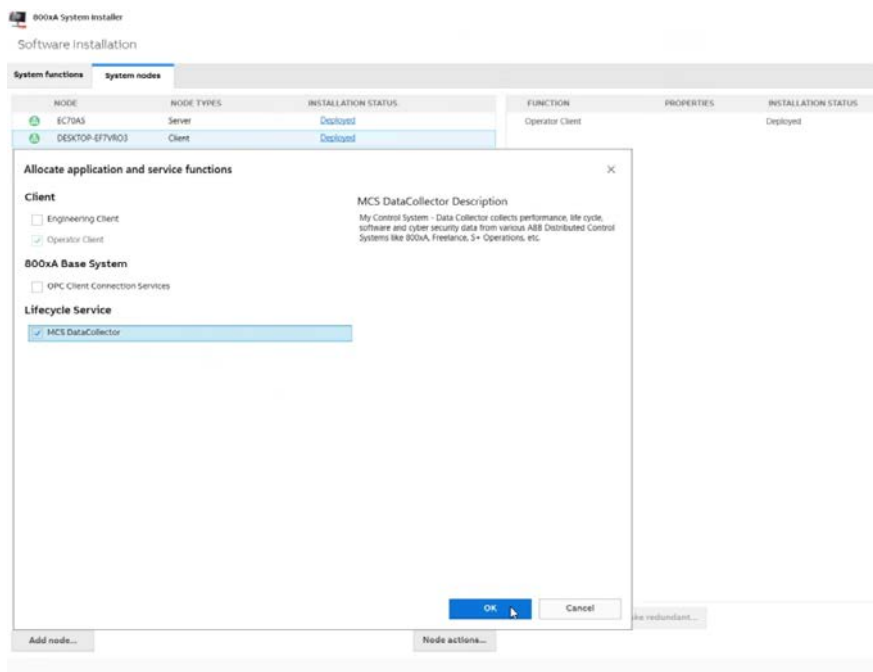

Figure 3.8: Node function
3. Under **System nodes** tab, select a node with client node role, where MCS-DC is to be installed. Click on **Allocate function** and select the **MCS Data Collector** as shown in **Figure 3.8**. Click **OK**.